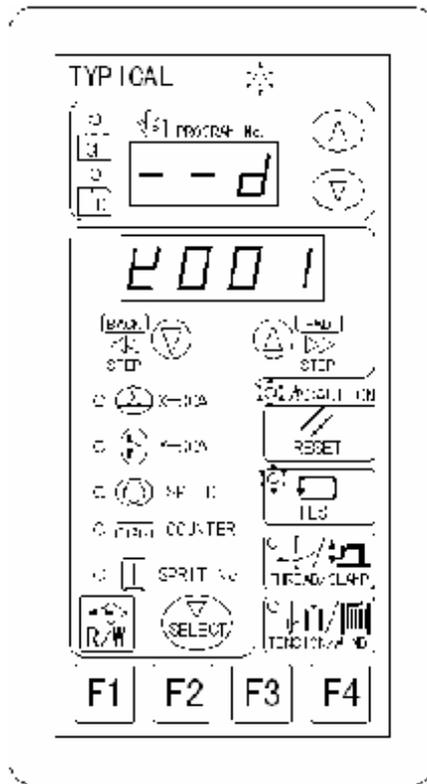

Fig. 6-10
2. Lower the needle by handwheel, and stop when it almost contacts template. Use Arrow Key to move machine needle from origin to point A, with operation panel shown as Fig. 6-10 in moving process. And [K001] displayed on menu